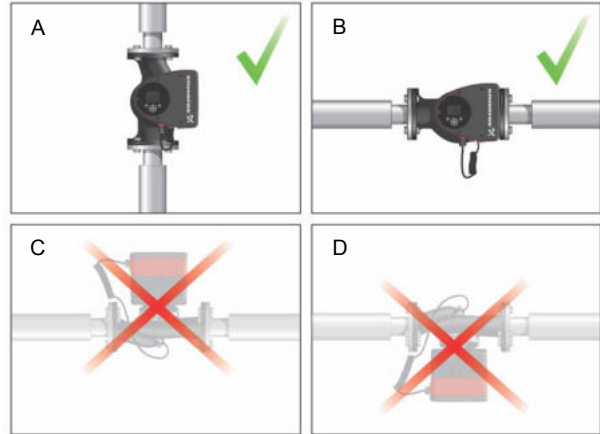

Fig. 7 Pump installed with horizontal motor shaft
- Pump installed correctly in a vertical pipe. See fig. 7, pos. A.
- Pump installed correctly in a horizontal pipe. See fig. 7, pos. B.
- Do not install the pump with vertical motor shaft. See fig. 7, pos. C and D.